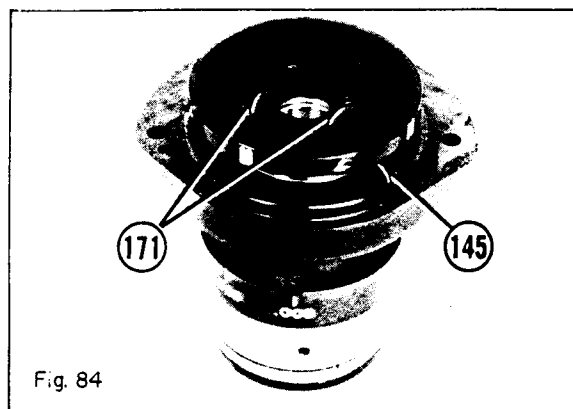

Fig. 84
1. Remove the two 4-40 cap screws (171) as shown in Fig. 84.